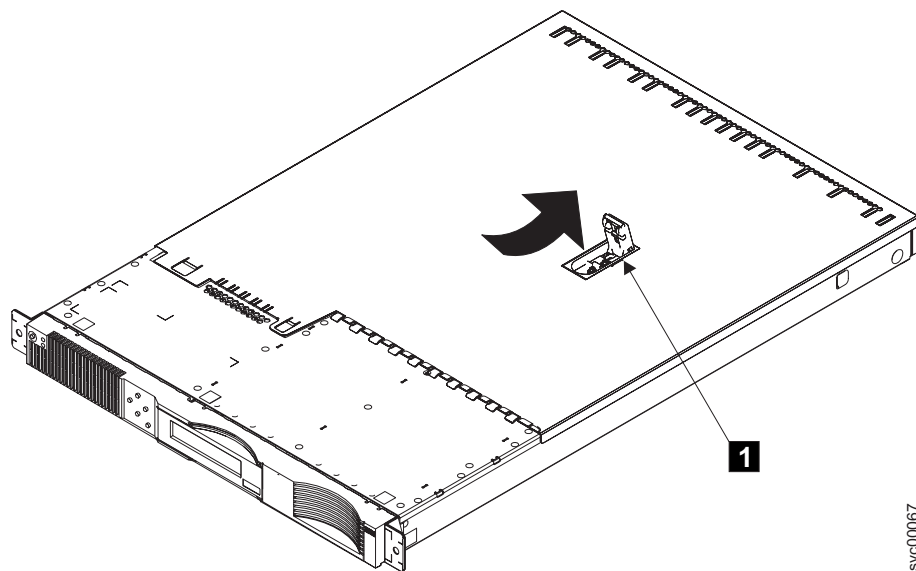

Figure 97. Installing the Top Cover
1. Ensure that the lever **1** is fully up, as shown in Figure 97.